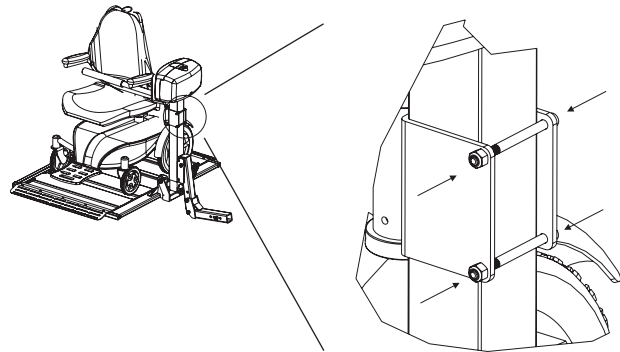

Figure 6-12
3. Loosen the two bolts and nuts in the back of the outer tube. *See Figure 6-12.* Allow the arm assembly to lower until the arm contacts the seat.